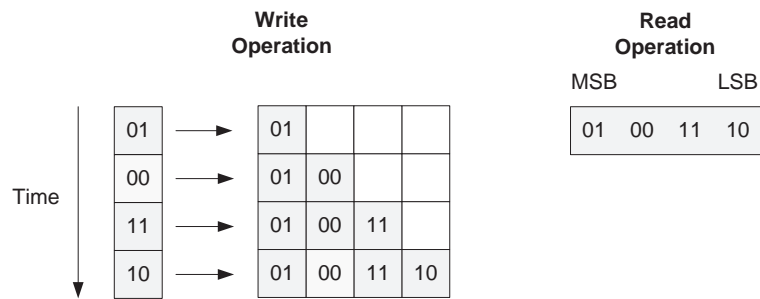
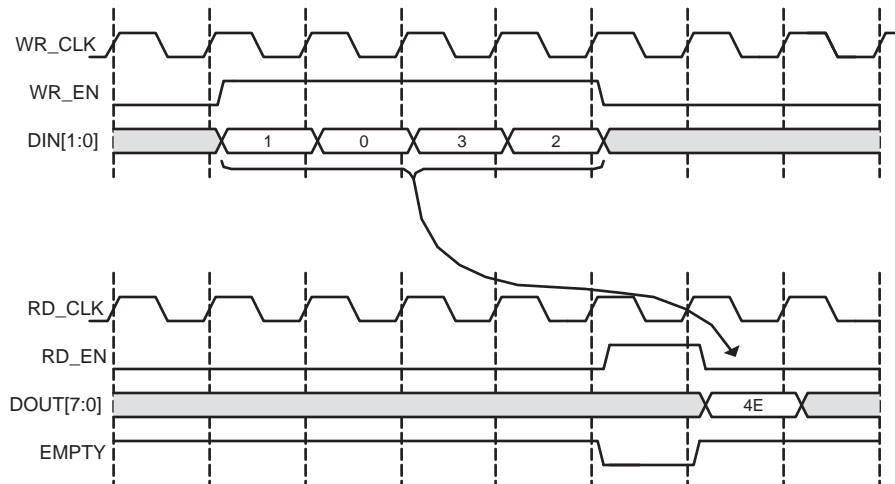

Figure 3-13: 1:4 Aspect Ratio: Data Ordering
Figure 3-14: 1:4 Aspect Ratio: Status Flag Behavior
**Note:** For non-symmetric aspect ratios where the write width is smaller than the read width (1:8, 1:4, 1:2), the most significant bits are read first (refer to Figure 3-13 and Figure 3-14).
Figure 3-13 is an example of a FIFO with a 1:4 aspect ratio (write width = 2, read width = 8). In this figure, four consecutive write operations are performed before a read operation can be performed. The first write operation is 01, followed by 00, 11, and finally 10. The memory is filling up from the left to the right (MSB to LSB). When a read operation is performed, the received data is 01\_00\_11\_10.
Figure 3-14 shows DIN, DOUT and the handshaking signals for a FIFO with a 1:4 aspect ratio. After four words are written into the FIFO, EMPTY is deasserted. Then after a single read operation, EMPTY is asserted again.